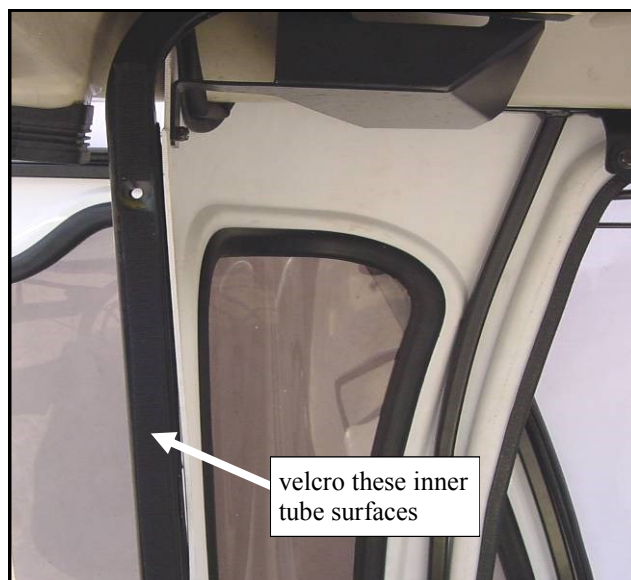

Fig. 4.2 (view from right side)
4.2 Per fig. 4.2, install PSA hook velcro to the inner surfaces of the rear tubes as shown. Stop and re-start on both sides of the holes.